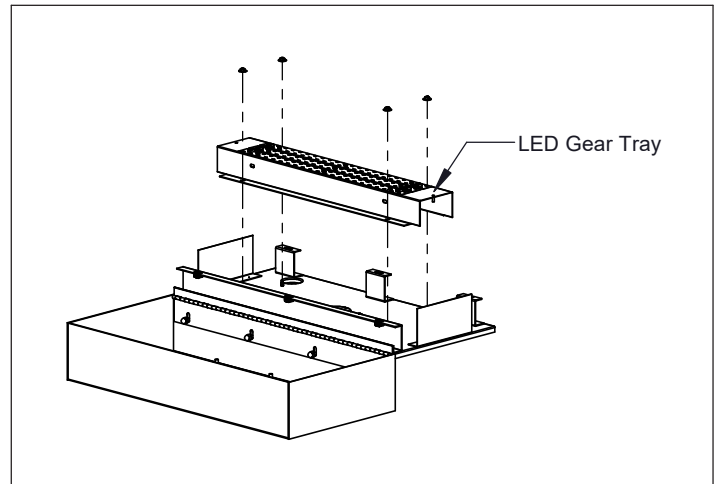

Figure 2
2. Remove nuts and pull LED gear tray out of fixture. Remove necessary K.O.(s) that best suits installation before mounting (Fig. 2)